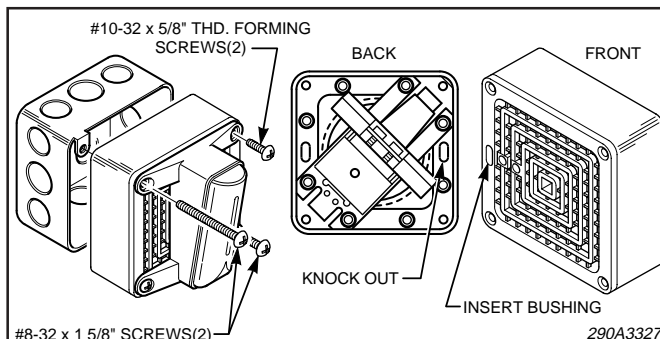

Figure 3. 450D Series D Horn Mounting.
3. CPG Model 450D Horn Mounting (see figure 3).
See figure 3. Using a small blunt tool, such as a pin punch or screwdriver, knock out the slot in the horn housing from the rear. Insert the supplied nylon bushing into the slot from the front of the horn, as shown in figure 3.